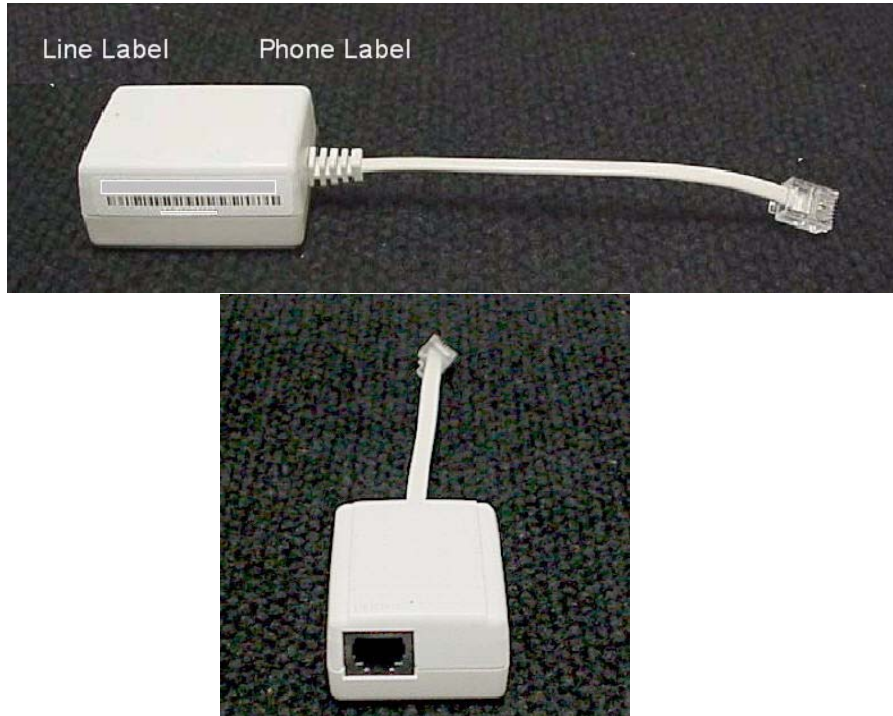

FIGURE 5-18 Attenuator Connections
The TN-S900-A has two labels, LINE and PHONE (see Figure 5-18). For ease of installation and maintenance, the TN-S900-A is co-located with the modem, so the pig tail of the TN-S900-A is plugged into the modem, and the RJ-11 receptacle faces the wall jack.
4. An attenuator may be installed as shown in subsection 5.20.2. (Figure 5-18).